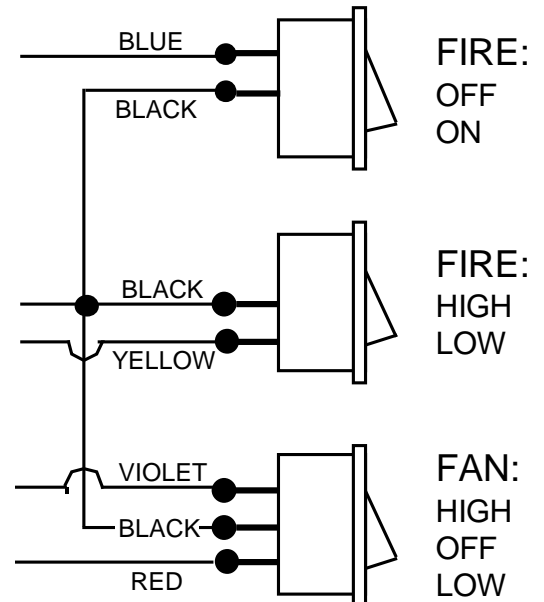

Fig 2.
- 3) There are three switches supplied with the fascia. If they have not already been assembled, insert them in the rectangular holes in the left side of the left fascia panel. The FAN switch (three terminals) goes in the bottom hole either way up, the burner HI/LO switch (two terminals with no printing on the rocker) goes in the centre hole with the two terminals at the bottom, while the ON/OFF switch (two terminals) fits in the top hole with the terminals at the top. (See Fig. 2).
- 4) Connect the fan wires, red, violet and black, to the bottom fan switch, in the following positions. (See Fig. 2).
- 5) Connect the burner HI/LO wires, yellow and black, to the centre switch in the following positions. (See Fig. 2).
- 6) Connect the burner ON/OFF wires, blue and black, to the top switch in the following positions. (See Fig. 2).